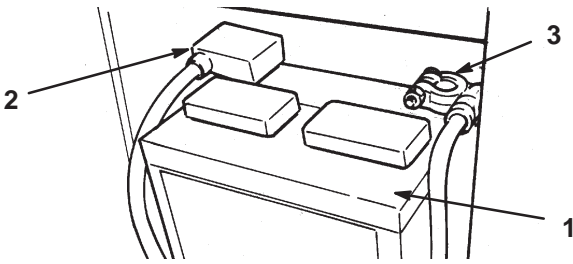

Figure 19
5. Install the positive cable (red) to the positive (+) terminal and the negative cable (black) to the negative (—) terminal of the battery (Fig. 19) and secure them with capscrews and nuts. Slide the rubber boot over the positive terminal to prevent a possible short from occurring.